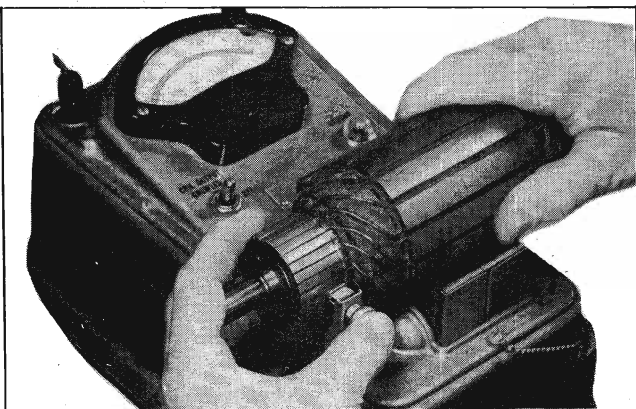

Fig. 11-12 Bar-to-Bar for Open Armature
b. Check armature for open circuit by making bar-to-bar check as shown in Fig. 11-12. Inconsistent variation in readings indicates an open armature.